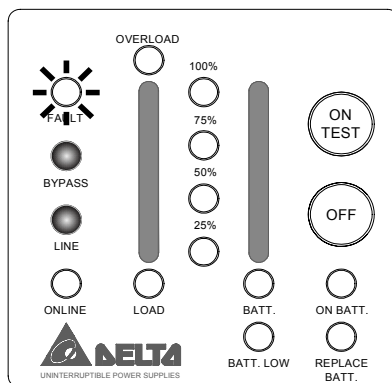
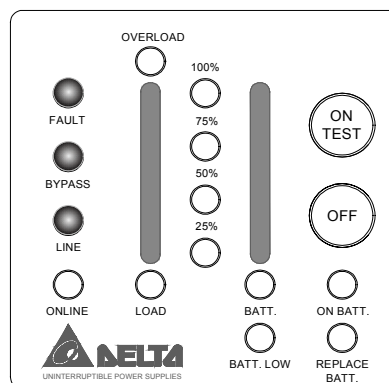

Figure 3-13 (O.T.P.)
Figure 3-14 (Fan Fail)
- ✓ When the UPS inner component overheat, the UPS will protect itself by thermal switches. This status is so-called **“O.T.P”**. Show as Figure 3-13. When the UPS fan is failure. It is show as Figure 3-14.